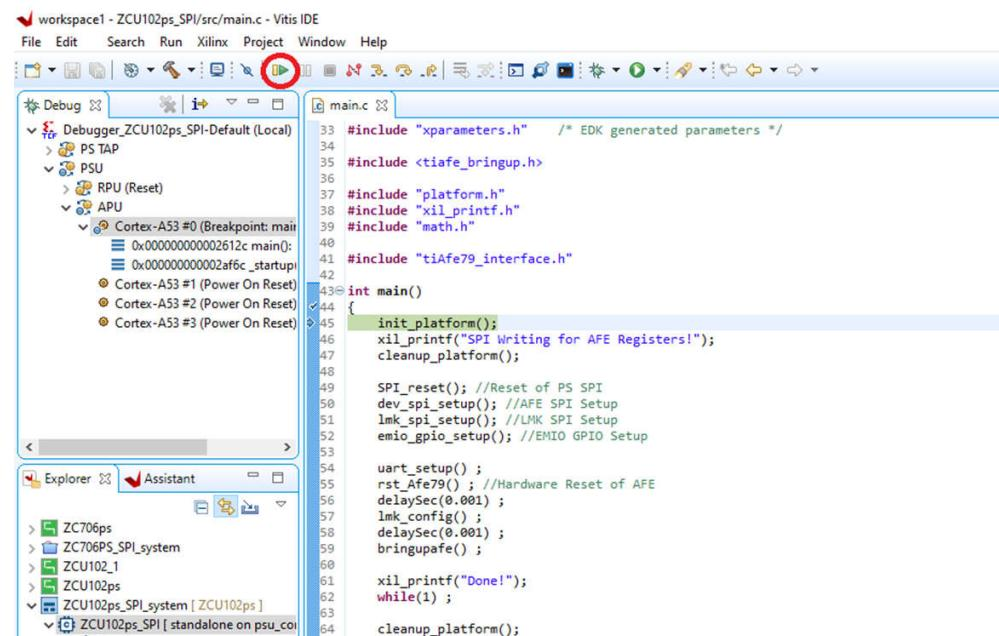

**Figure 15-2. Vitis Serial Terminal**
2. Connect the Vitis Serial terminal (see Figure 15-2) with baudrate 115200 (this can be used to see SPI write or read status).